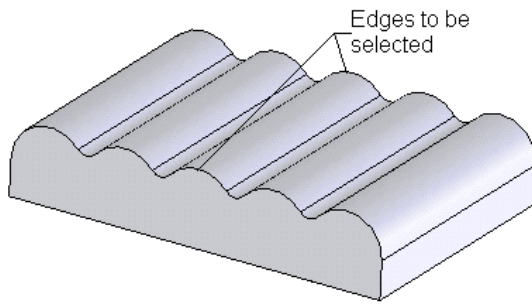

Figure 8-41 Edges to be selected
- Add the fillets to the base feature, refer to Figures 8-41 and 8-42.
1. Invoke the **Fillet PropertyManager**, rotate the model, and select the edges of the base feature as shown in Figure 8-41.